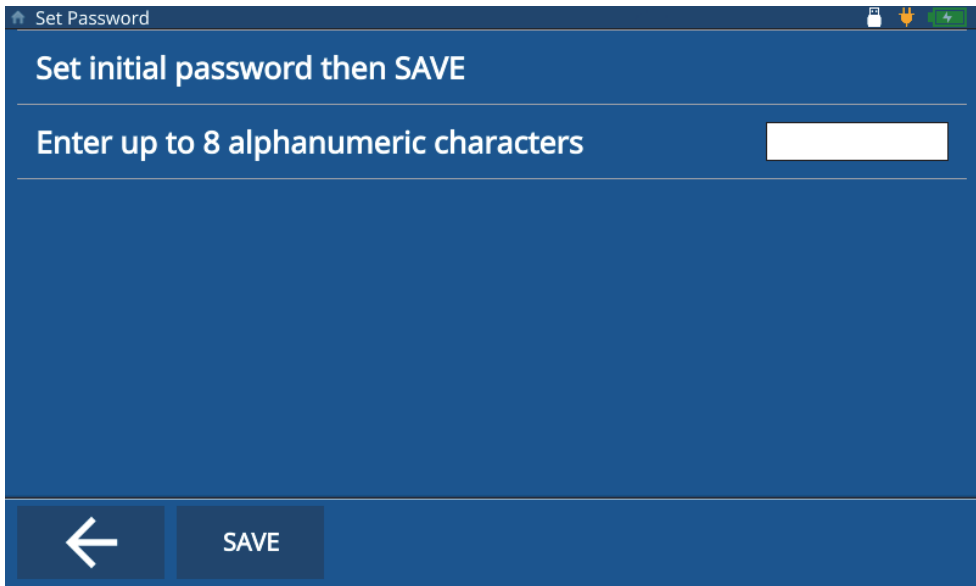

Figure 8-2 Set Password screen
5. (Optional step) Tap **Set PWD**, enter a password, and tap **Save** (see Figure 8-2 on page 73).